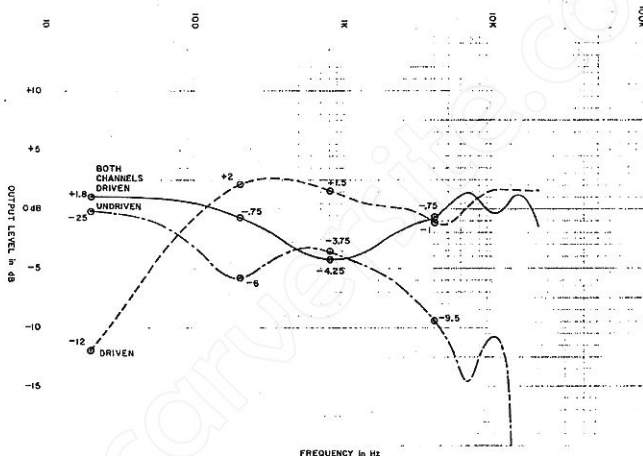

Figure 6-4. Hologram Frequency Response (Theoretical/Blend)
E) Referring to Figure 6-4 below, verify that the output signal levels are within $\pm 1.5\text{dB}$ of the values indicated at each of the test points (circled). Drive one channel alone to measure the "driven" and "undriven" responses; drive both channels simultaneously to measure "both channels driven". Adjust input frequency and repeat until all 12 test points have been verified. Table 6-4 lists the acceptable ranges.